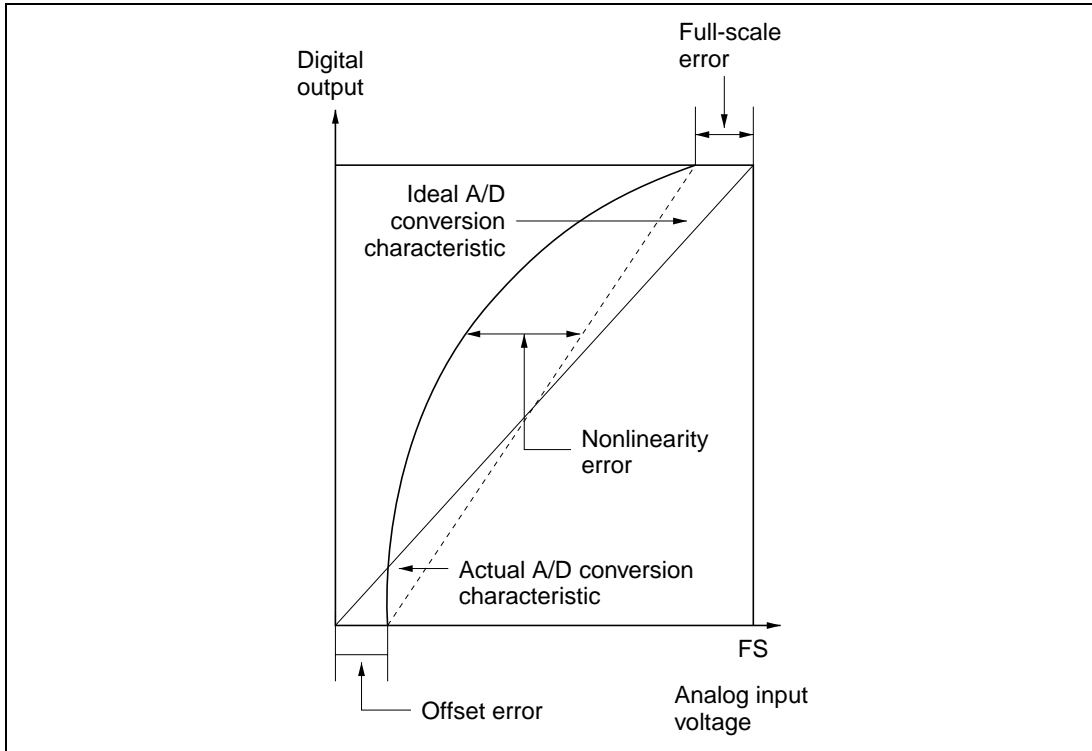

Figure 15.10 A/D Converter Accuracy Definitions (2)
- Offset error:.....Deviation from ideal A/D conversion characteristic of analog input voltage required to raise digital output from minimum voltage value 000000000 to 000000001 (figure 15.10)
- Full-scale error:Deviation from ideal A/D conversion characteristic of analog input voltage required to raise digital output from 111111110 to 111111111 (figure 15.10)